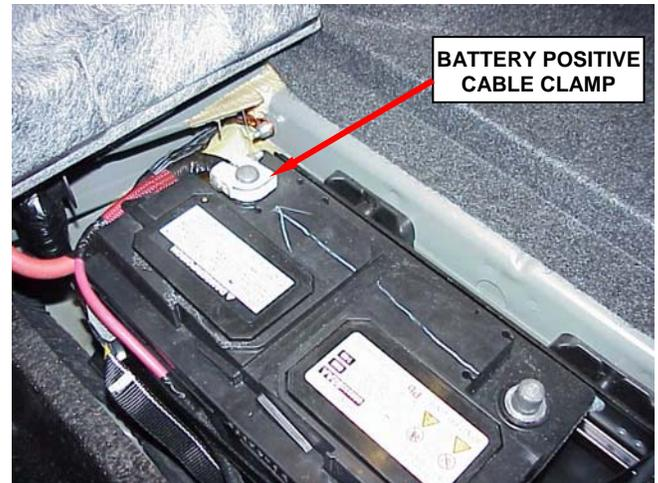

Figure 2 – Positive Cable Connection
- a. Disconnect the battery positive cable clamp from the battery terminal (Figure 2).
- i. Connect the battery positive cable (Figure 2).